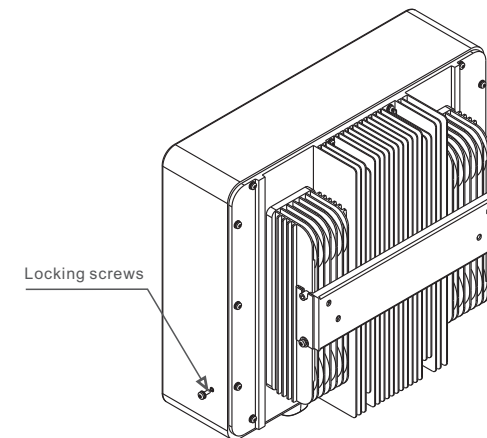

Figure 5.8 Fixed cable
- 6) Connect the grounding cable to the grounding point on the heat sink, and tighten the grounding screw, Torque is 3Nm (see figure 5.8).